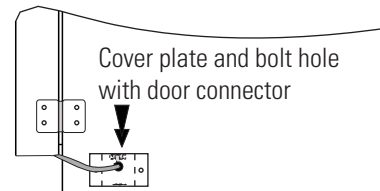

Figure 5-3. Cover Connector
1. Locate the small cover plate securing the door cord (Figure 5-3). Remove the screws from the plate and disconnect the door cord from the connector behind the plate.
15. Install the door cord to the connector. Secure the plate with the two screws. See Figure 5-3.